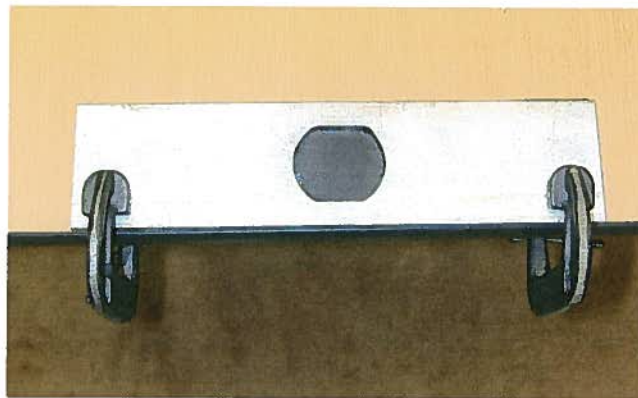

Figure 4: SFC base plate attached to table.
- a. Using C-clamps, secure the SFC base plate to a suitable surface. An example is shown in Figure 4. Other methods may be used to secure the base plate or to secure the SFC directly.